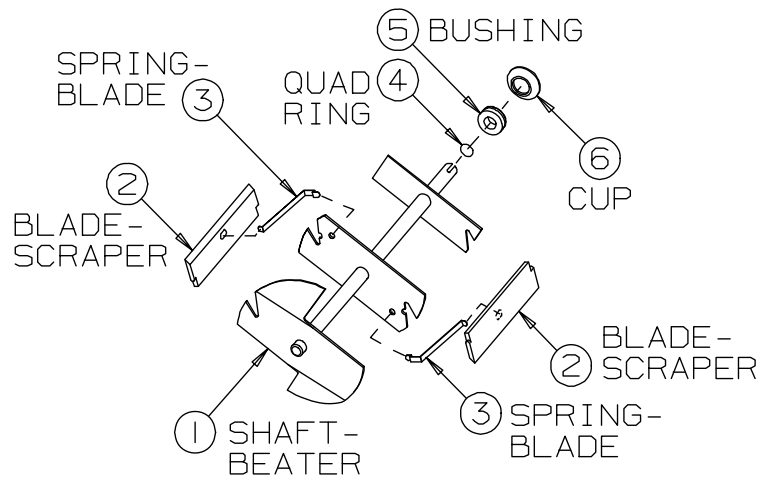
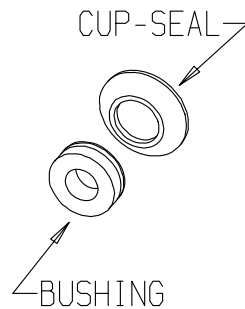

Figure 6-2
Figure 6-3
8. Remove the beater shaft (figure 6-2, item 1) from the cylinder.
9. Remove scraper blades (2), springs (3), shaft seal (5 and 6) and quad ring (4) from the beater shaft (1).
10. Remove the cup seal from the bushing on the shaft seal assembly as shown in figure 6-3.